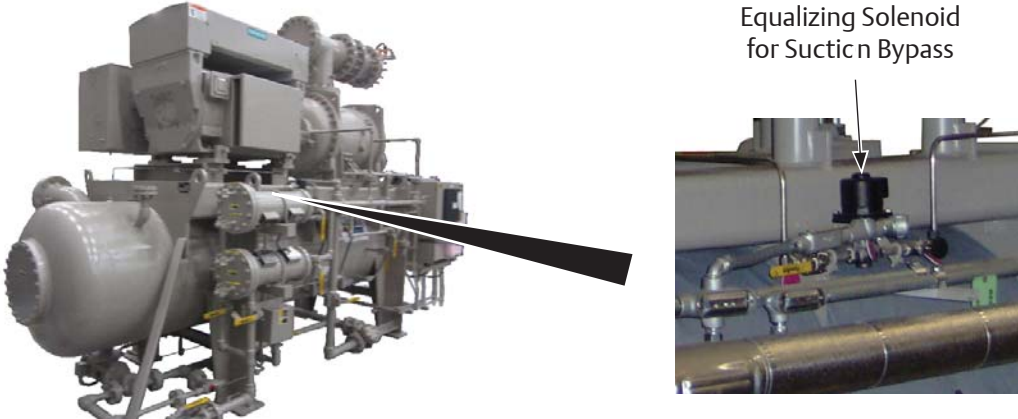

Figure 4-12. Equalizing Solenoid
3. Allow pressure in compressor unit to equalize to suction pressure, see Figure 4-12.